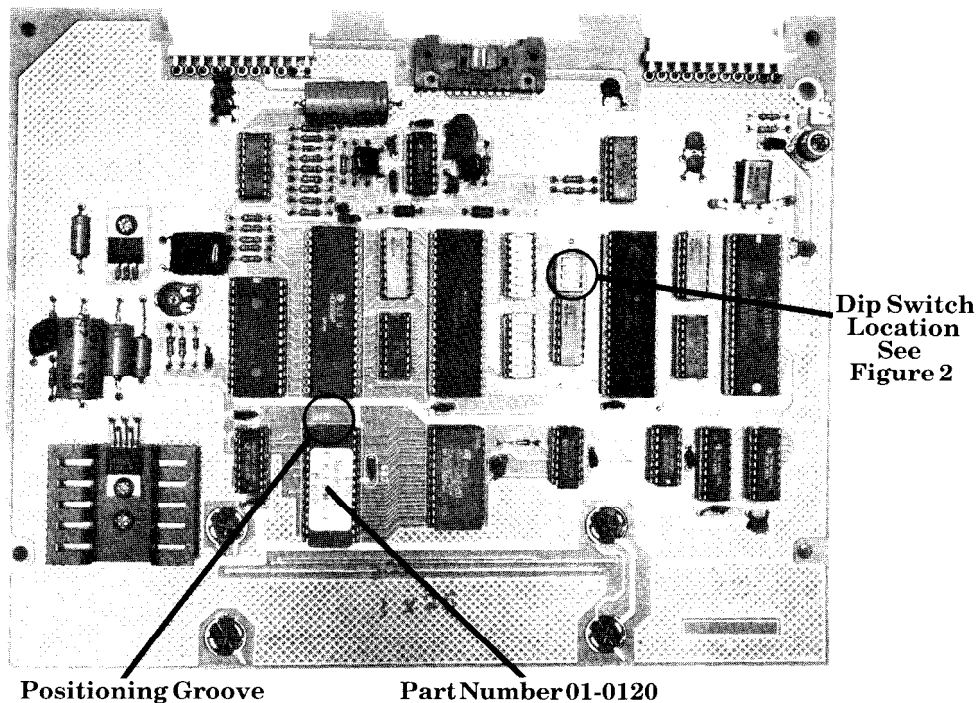
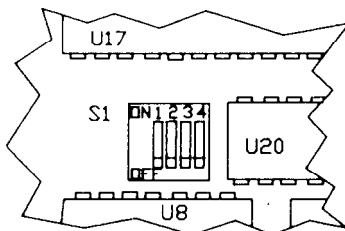

Figure 1
FIGURE 2
3. (Figure 1) Remove the old eprom and replace it with the new one. Be careful to place it with the positioning groove facing the proper direction, as shown.
4. The Dip Switch must be added to the main board (See Figure 1 and 2 for its location). Remove the main board from the component tray and desolder the 8 holes for mounting the switch. Place the switch on the board as shown in Figure 2. Solder switch in place.
Figure 2 shows the dip switch on the main board. Switch 4 is for Cricket. When the switch is "ON" you have Cricket 200 and when it is "OFF" you have the original Cricket.
**IMPORTANT:** If you are not installing a Double Bull, than make sure switch 3 of S1 is in the "OFF" position (See Figure 2).